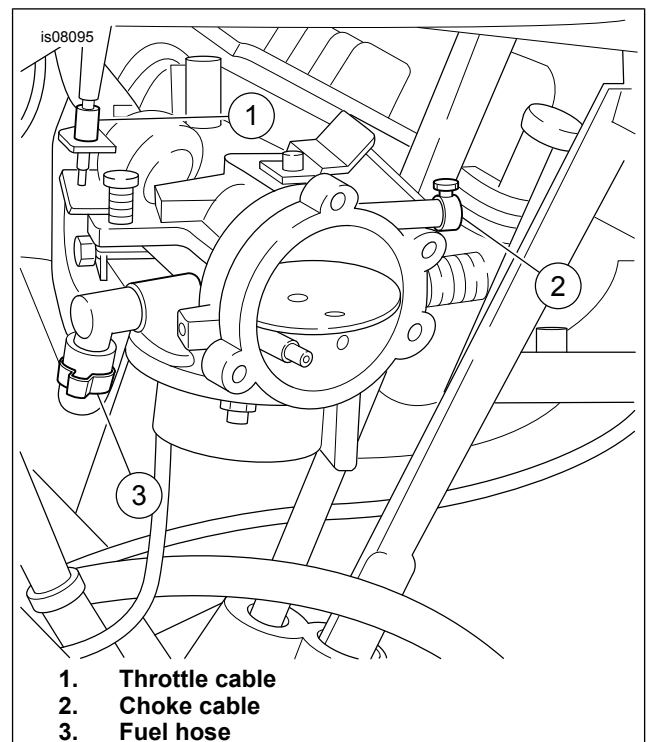

Figure 1. Removing Carburetor
2. See Figure 1. Turn fuel valve off. Disconnect fuel hose, throttle cable and choke cable from carburetor.
1. Fasten the carburetor and new O-ring (20) (1976-1987) or gaskets (46) (Late-1978 and later) to intake manifold using the original lockwashers and nuts. Tighten nuts alternately to 19 ft-lbs torque.
2. See Figure 1. Connect the fuel hose, throttle cable and choke cable to the carburetor.